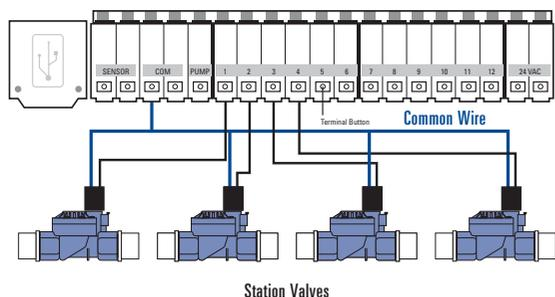

Figure 7: Connecting Sprinkler Wire
IMPORTANT: The wire can be buried in the ground. However, for greater protection, wires can be pulled through PVC pipe and buried underground. Be careful to avoid burying the wires in locations where they could be damaged by future digging or trenching. (See Figure 7)
- Determine which valve you want to connect to which station. Using a phillips screwdriver to depress the terminal button insert each sprinkler wire, excluding the "common" wire, into a separate station terminal (grey in color) by inserting the bare wire fully into the terminal under each number. (See Figure 7)